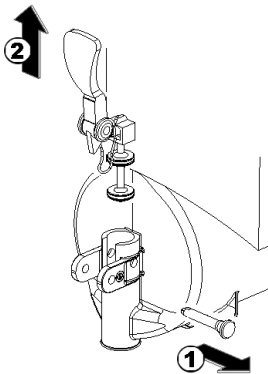

figure 10
- Dismantle the faucet assembly (see figure 10).
- Assemble the faucet by reversing the disassembly steps (see figure 10)